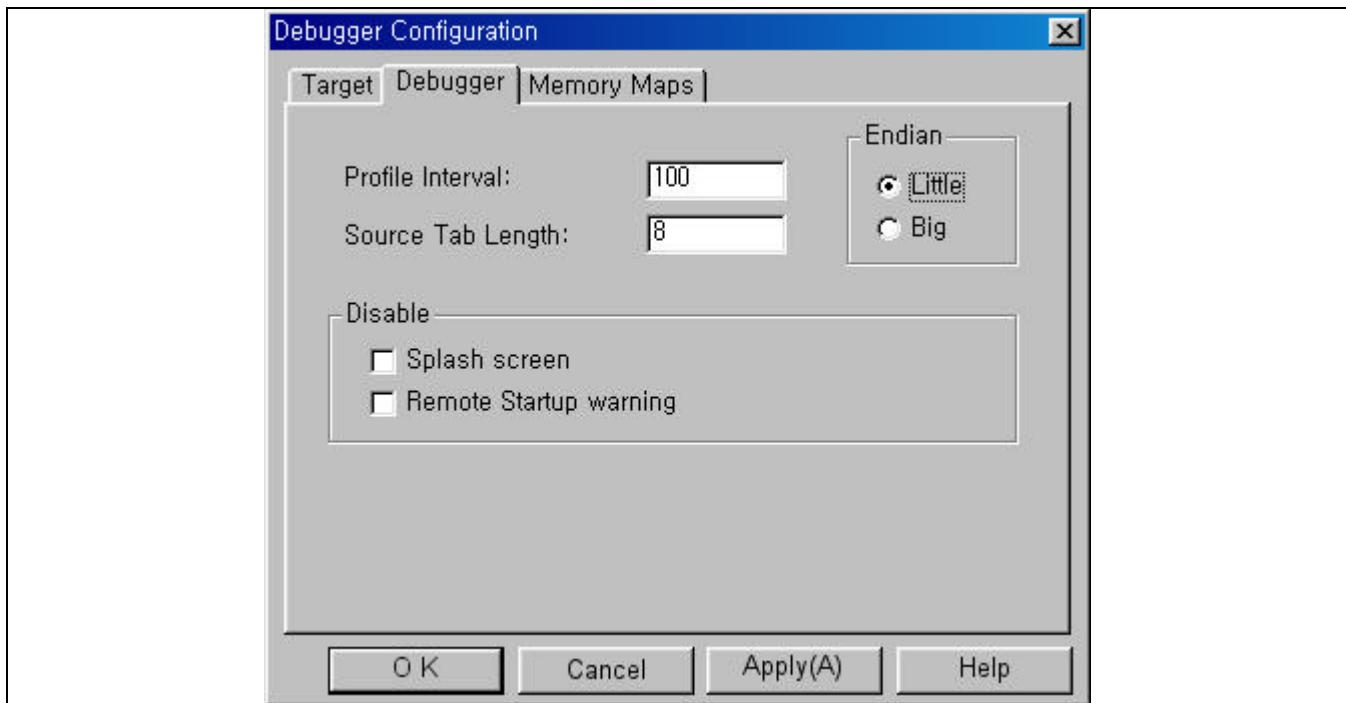

Figure 2-19. Debugger Configuration: Debugger Page
5. Select Debugger page from Debugger Configuration dialog box (See Figure 2-19) and configure it